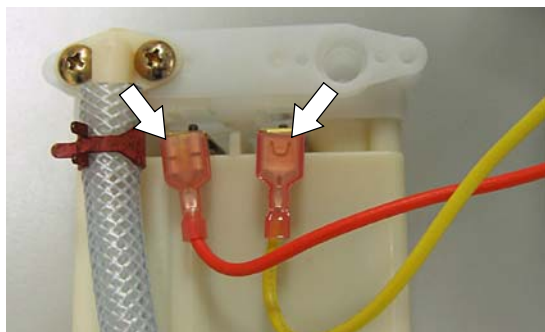

FIG. 5
6. Disconnect the orange and yellow wire terminals from e-cell (Figure 5).